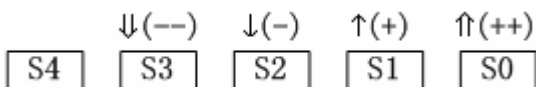

Figure3-3 Soft key display
- As figure 3-2 (c) shows that, the cursor has moved to 1.0kHz, if press soft key “S1” in figure3-3, then the inverse area will display 10 kHz.